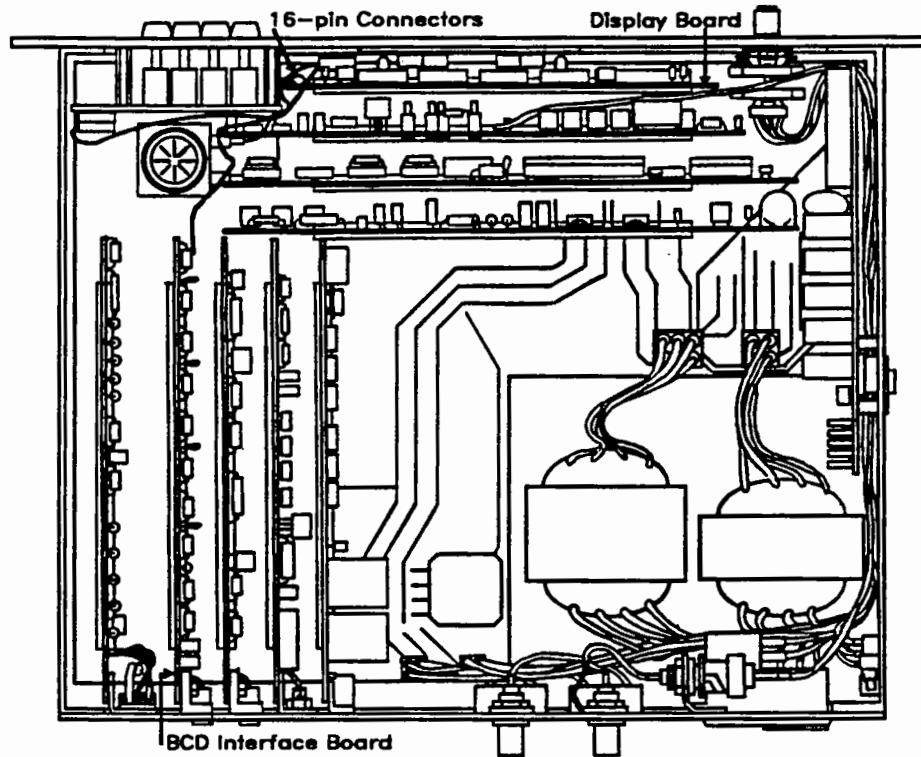

Figure 2-8. BCD Interface Installation.
1. Remove the display board (the one closest to the front panel) by pulling up on it at the corners. Refer to Figure 2-8. Do not completely remove the board since there are other electrical connections to this board.
2. Locate the two 16-pin connectors on the right side of the board, as shown in Figure 2-8. The keyboard will be connected to the leftmost connector, J202, with a ribbon cable similar to the one that is to be installed.